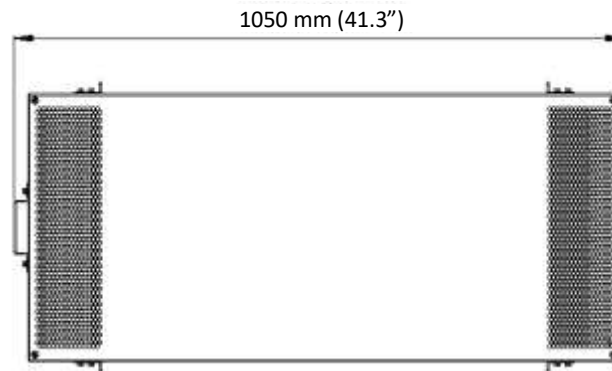

Figure 2-6 Minimum distance to pull-out the unit for maintenance
- To facilitate ease of installation and maintenance, sufficient space needs to be provisioned as per Figure 2-6 below.